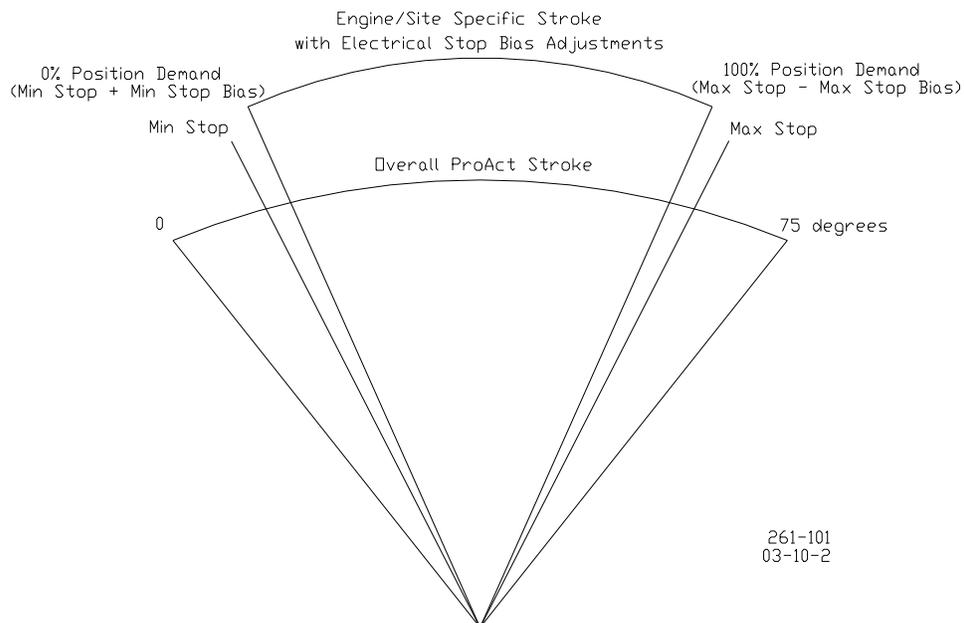

Figure 9-5. Electrical Stop Adjustments Relative to the Mechanical Min and Max Stops
14. Optionally, set the offset (bias) desired at each stop. The Min Stop Bias and Max Stop Bias parameters are available in the Hardware Adjustments to basically provide an electrical stop within the user calibrated stop settings. This offset is in degrees of travel and can be adjusted anytime. Refer to Figure 9-5 and Service Mode: Hardware adjustments later in this chapter.